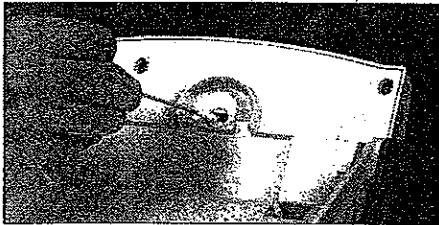

Figure 74
4. To clean the phototransistor, gently wipe the two lenses (see Figure 74) with a Q-tip dampened with 70% Isopropyl Alcohol.